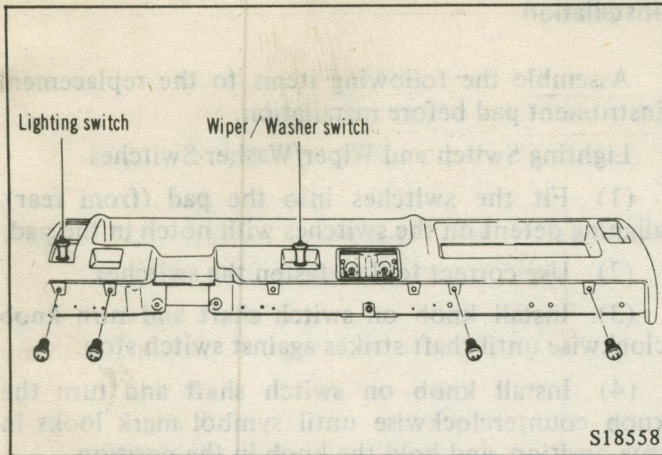

Fig. 85 Removing the Instrument Padding (1)
- (10) Remove two black headed screws with spring washers and plain washers from glove box. Also remove two sets of fasteners under lighting switch. (Fig. 85)